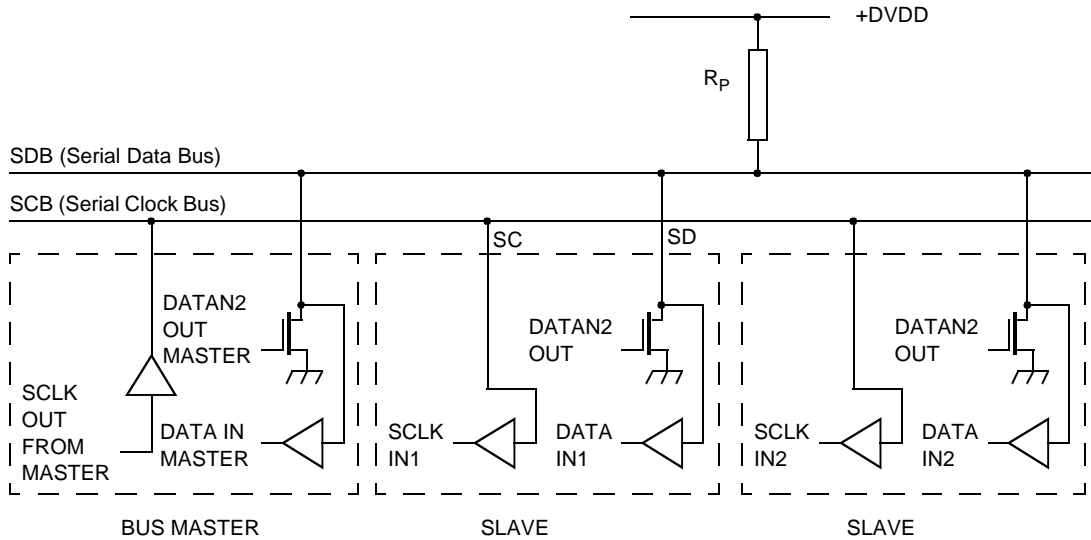

Figure 19: Connection of Devices to Bus
The CH7006 contains a standard I²C control port, through which the control registers can be written and read. This port is comprised of a two-wire serial interface, pins SD (bidirectional) and SC, which can be connected directly to the SDB and SCB buses as shown in **Figure 19**.
The Serial Clock line (SC) is input only and is driven by the output buffer of the master device (also shown in **Figure 19**). The CH7006 acts as a slave, and generation of clock signals on the bus is always the responsibility of the master device. When the bus is free, both lines are HIGH. The output stages of devices connected to the bus must have an open-drain or open-collector to perform the wired-AND function. Data on the bus can be transferred up to 400 kbit/s.
The electrical specifications of the bus devices’ inputs and outputs and the characteristics of the bus lines connected to them are shown in **Figure 19**. A pull-up resistor (R_p) must be connected to a $3.3V \pm 10\%$ supply. The CH7006 is a device with input levels related to DVDD.